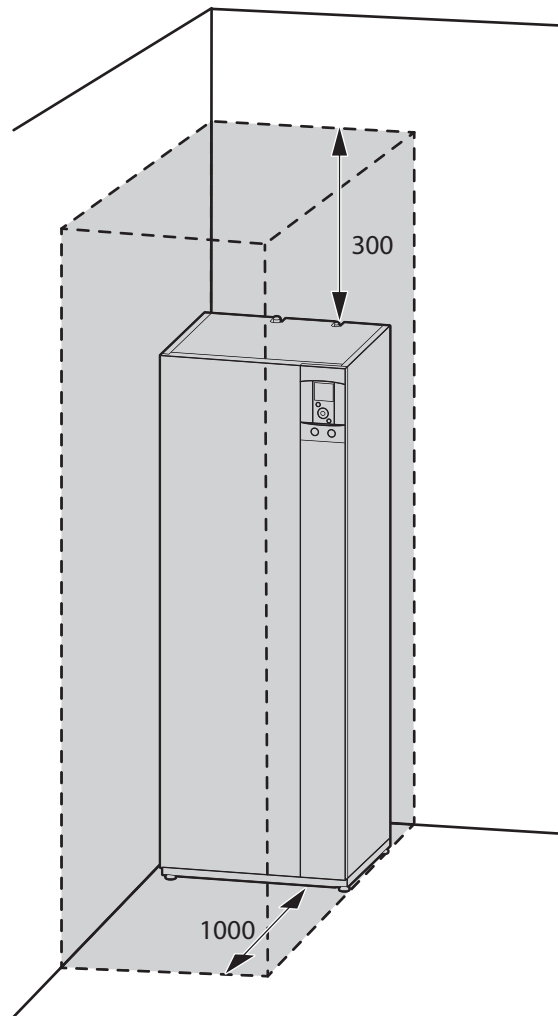

fig. 15 - Minimum installation clearances around the hydraulic unit for maintenance
- To facilitate maintenance and to allow access to the various components, we recommend that you provide sufficient space all around the hydraulic unit (*fig. 15*).